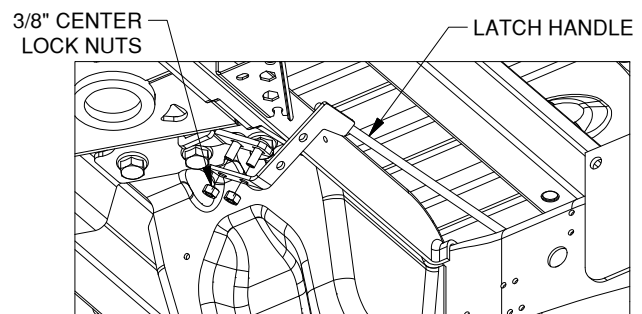

Figure D2: Looking back at driver side of center section.
2. **Install the latch pin handle.** Beginning under the vehicle, "thread" the end of the handle, with the vinyl grip, in front of the brake lines and over the frame on the driver side. Attach the handle to the latching mechanism over the 3/8 carriage bolts with two 3/8 locking flange nuts, see figure D2. Be sure that the handle is in the proper position and that it does not interfere with any other components of the vehicle. Torque the nuts to 30 ft. lbs. to secure the handle.